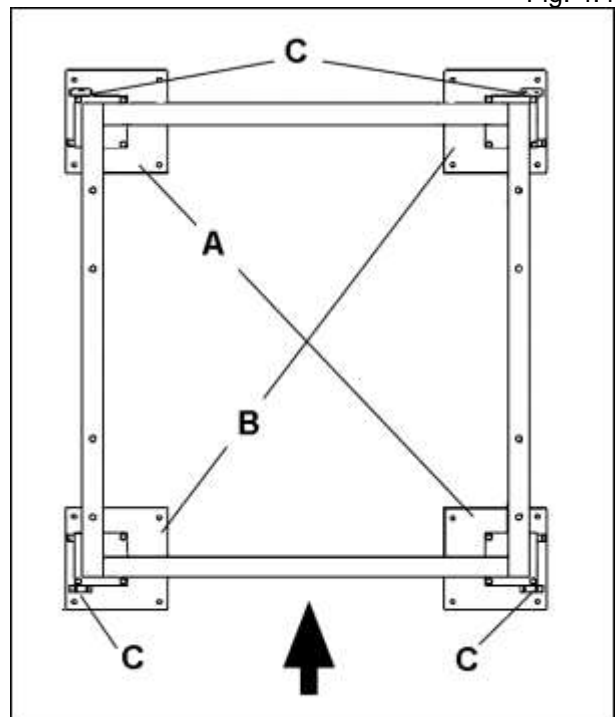

Fig. 4.5
**5.4. Hold down base securing** (Figure 4.5)